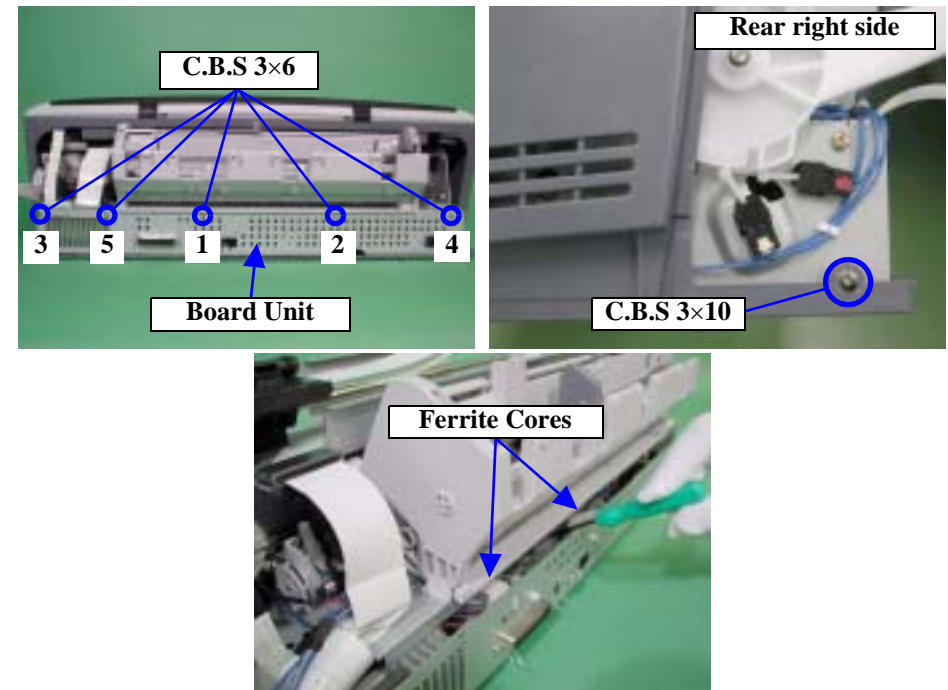

Figure 4-14. Screws That Secure the Board Unit
- When reinstalling the Board Unit, fit the screws in the order shown in Figure 4-14.